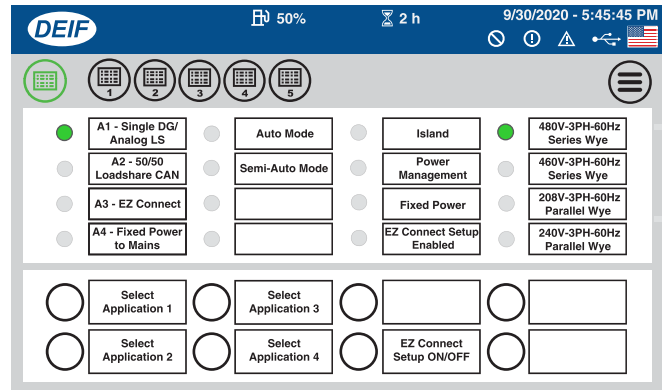

Figure 50. A1 - Single DG/Analog LS Status Indicator (ON/GREEN)
5. Verify that the **A1 - Single DG/Analog LS status indicator is ON (GREEN)**. See Figure 50.